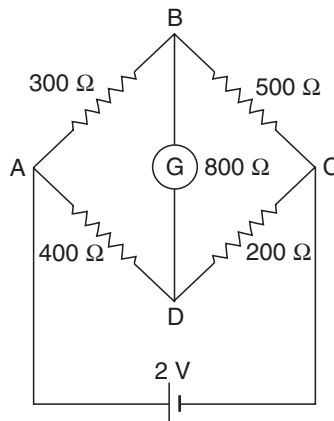

Fig. 65
27. Determine the current through the galvanometer *G* in the wheatstone bridge network of the given Fig. 65.